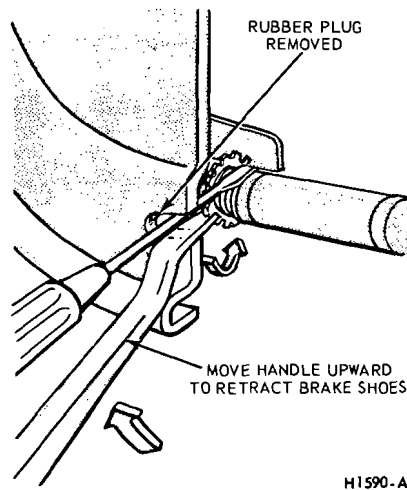

FIG. 6 Backing Off Brake Adjustment
- If the drum will not come off, pry the rubber cover from the brake backing plate. Insert a narrow screwdriver through the slot and disengage the adjusting lever from the adjusting screw. While holding the adjusting lever away from the screw, back off the adjusting screw with the brake adjusting tool (Fig. 6). **Be very careful not to burr, chip, or damage the notches in the adjusting screw; otherwise the self-adjusting mechanism will not function properly.**
Remove the three drum retainer nuts and remove the brake drum. If the drum will not come off, pry the rubber cover from the backing plate. Insert a narrow screwdriver through the hole in the backing plate, and disengage the adjusting lever from the adjusting screw. While holding the adjusting lever away from the adjusting screw, back off the adjusting screw with the brake adjusting tool (Fig. 6). **Be very careful not to burr, chip, or damage the notches in the adjusting screw; otherwise, the self-adjusting mechanism will not function properly.**